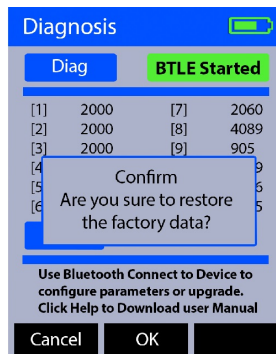

Figure 20.
5. Press **Factory** (**<**). The display updates as shown in Figure 20.